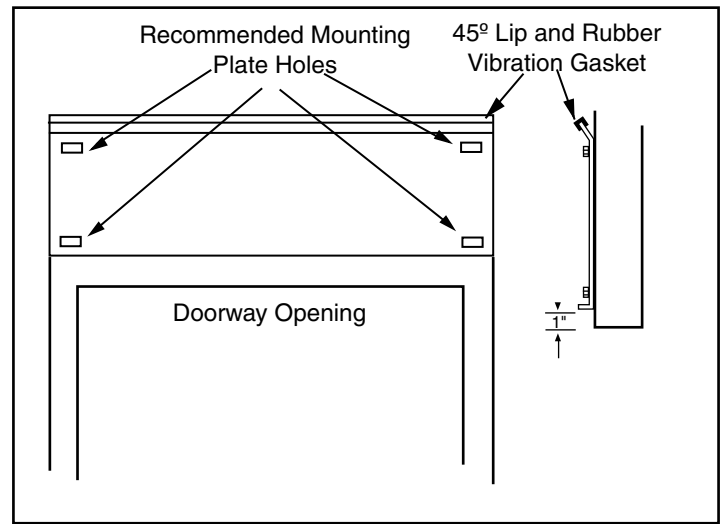

Figure 4
2. Mark and drill holes on the mounting plate where the wall will provide sufficient support for the Air Curtain. A minimum of four holes close to the corners is recommended. **See Figure 4.** The mounting hardware (supplied by others) must be capable of supporting a minimum of three times the net weight of the Air Curtain. **See Weight Chart, Table 1.**